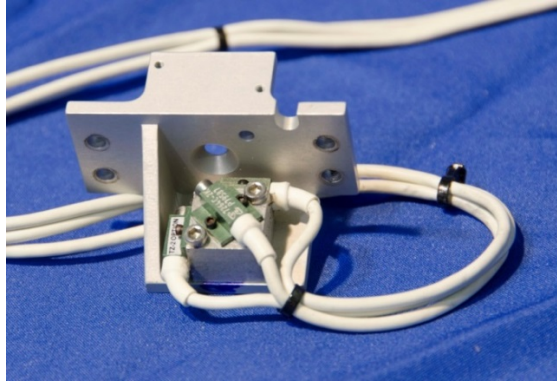

Figure 10-25. Attach accelerometers to block and secure to pelvis tri-pack mounting bracket
10.2.2.16 Mount the X, Y, and Z accelerometers to the accelerometer block using two M1.6 x 3 SHCS per accelerometer. Secure the accelerometer block to the Pelvis Tri-Pack Mounting Bracket with two M2 x 16 SHCS (Figure 10-25).